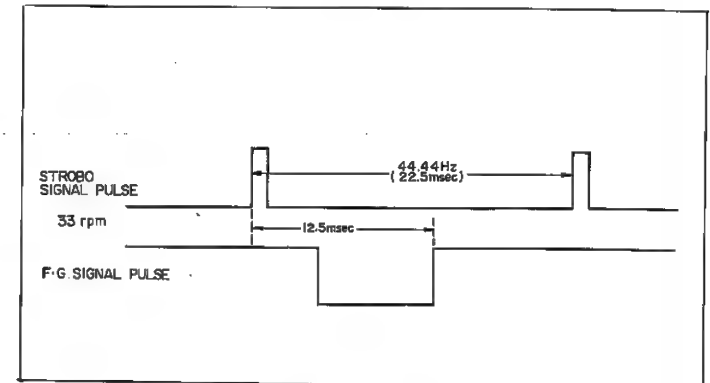

Figure 40
2. Setting the speed selector at "33 rpm" position, adjust the variable resistor VR5 so that strobo signal pulse and frequency generator's signal pulse will be shown in Figure 40.